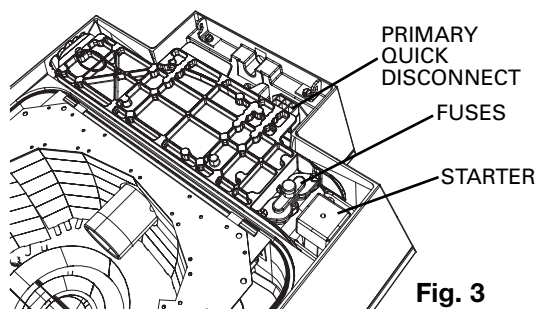

Fig. 3
3. Disconnect PRIMARY QUICK-DISCONNECT by grabbing sides and pulling away from fixture. (Fig. 3)